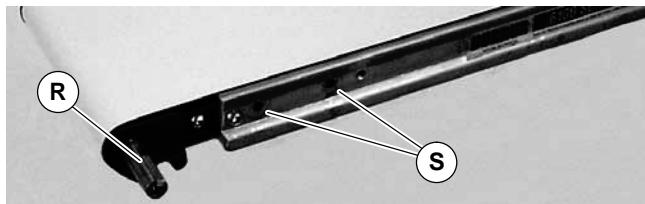

Figure 9
3. Locate drive output shaft (R of Figure 9) and remove two (2) screws (S).